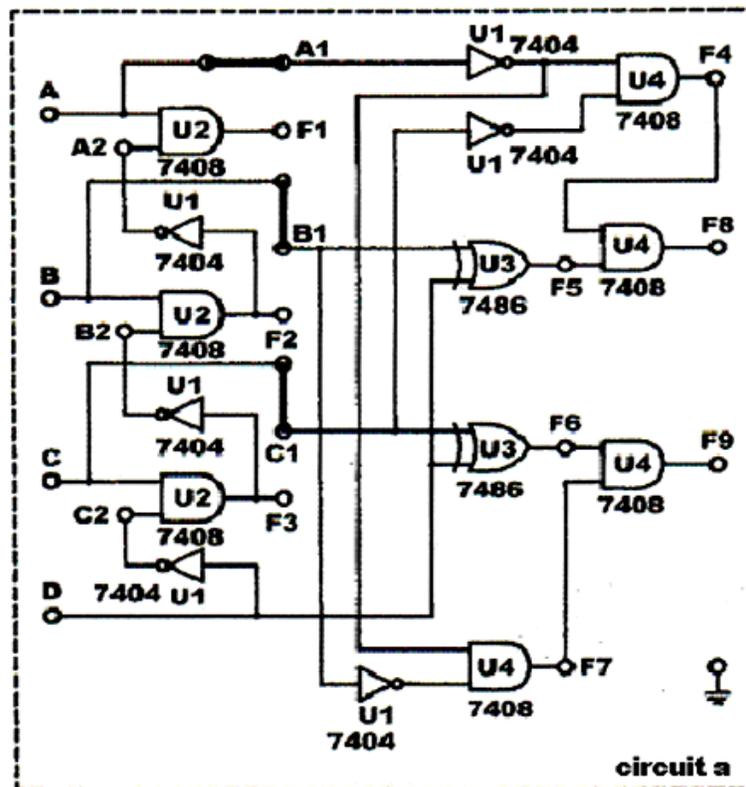

Fig 2-64
2. Insert connection clips according to Fig. 2-64.